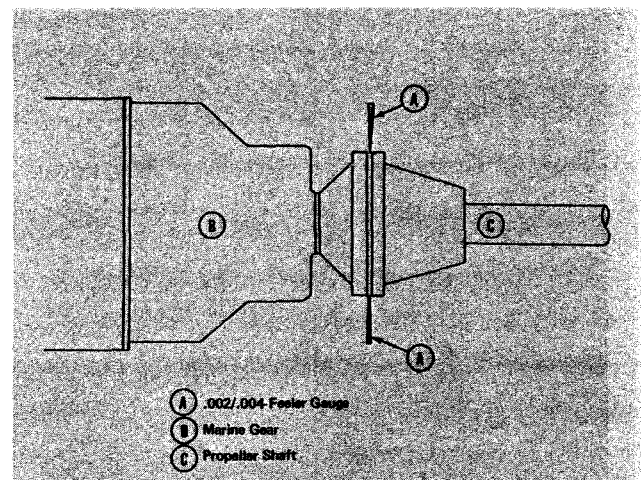

Fig. 5-17, (V11967). Checking alignment between marine gear and propeller shaft
3. Experience has shown that hulls often change shape after boat is launched; recheck and correct alignment, if necessary, with boat in water. This can be accomplished by removing the bolts in propeller shaft coupling and checking spacing of the two flanges on the circumference. For satisfactory alignment, variation should not exceed 0.004 inch [0.10 mm]. Fig. 5-17.